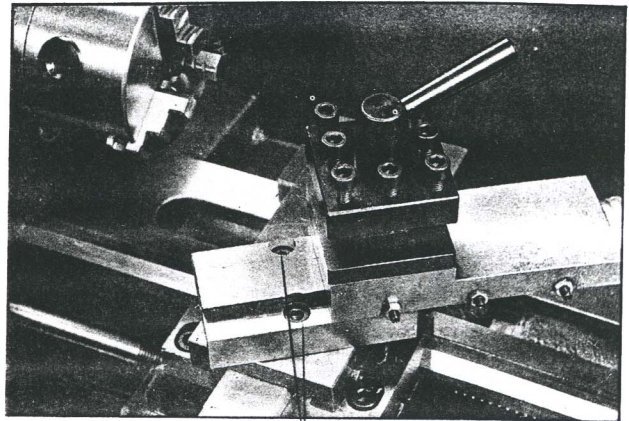

Fig. 8
To adjust the compound rest, loosen the two screws as shown in figure 8 (A). After adjusting to the required angle, tighten the screws.